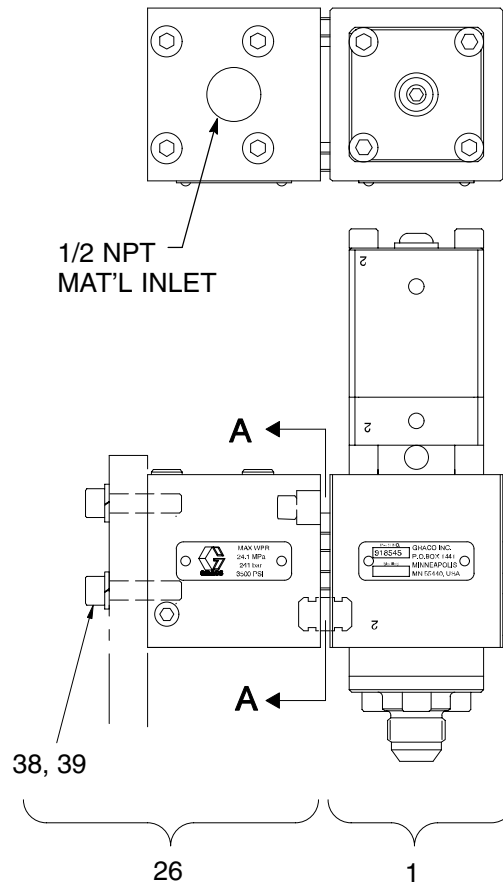

Fig. 9
1. Remove the dispense valve (1) assembly from its mounting (Fig. 9) as follows:
- a. Unscrew and remove four cap screws (38) and lockwashers (39) to remove dispense valve from its mounting.
2. Pull dispense valve assembly (1) and manifold assembly (26) apart. See Fig. 9.